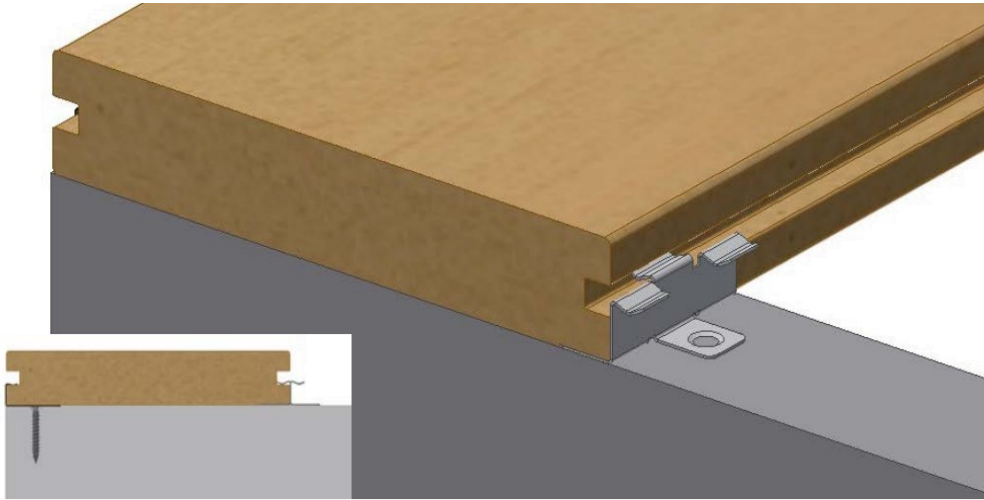

Figure 7
1) Put the steel clips in place. (Figure 7)